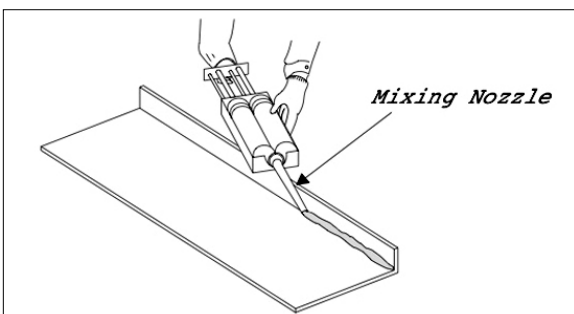

Fig 3
- ◆ Apply a 6-7 mm thick bead (the thickness of a pencil) of **CBC 800 Nose Caulking** to the inside nose fold. See Fig 3.
- ◆ Follow procedures as outlined on page 2. See Fig 3.